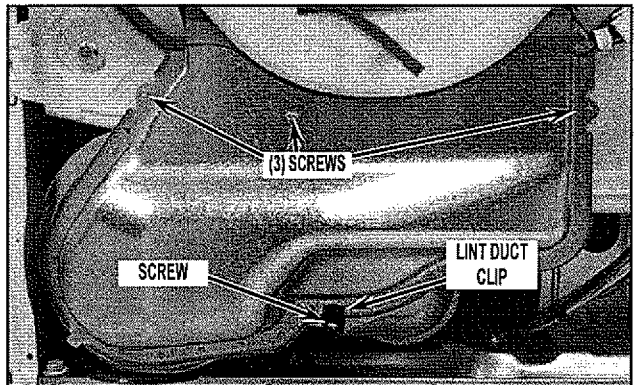

FIGURE 11
- Remove lint duct by removing four (4) screws and clip as shown in *Figure 11*.